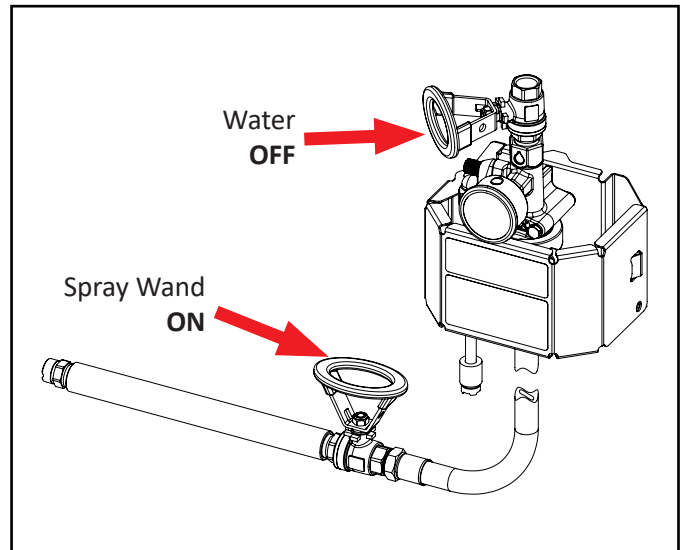

Fig. 7.1: Ball valve positions for start up
1. Ensure unit is properly connected and the water valves is closed [Fig.7.1]